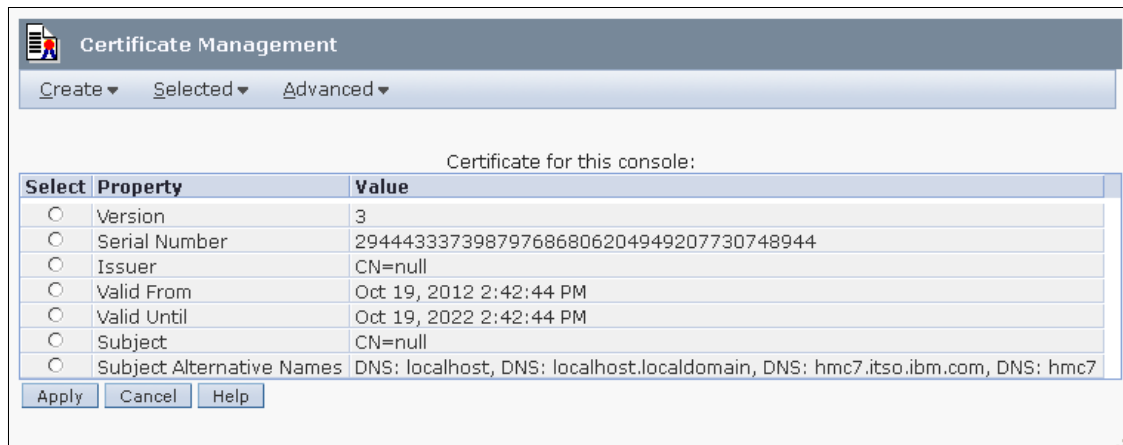

Figure 4-13 Create New Certificate
1. Select **HMC Management** → **Manage Certificates** → **Create** → **New Certificate**, as shown in Figure 4-13.
You are returned to the **Manage Certificates** window that is shown in Figure 4-13 on page 119. Many of the values will display as Not available.